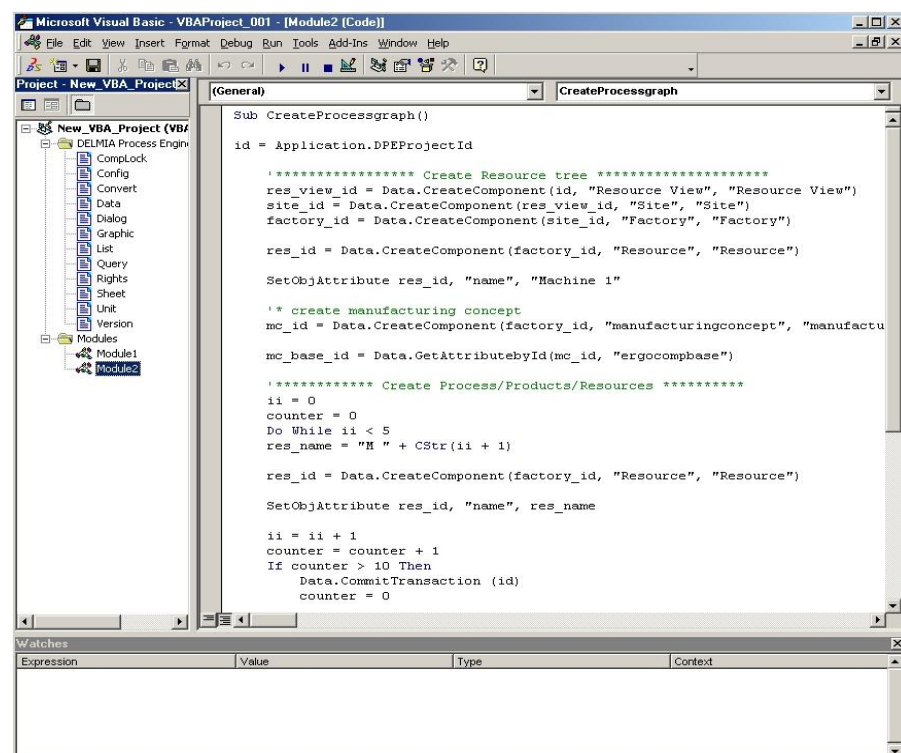

Figure 26: Example of a VBA Environment
- 3) Open the context menu on the selected VBA Project. Click **Open VBA IDE** in the context menu. The VBA Environment gets opened. *Please refer to the Figure 26.*
As an example, the Figure 26 shows a VBA Environment opened in the VBA Project in the Process Engineer. In the tree structure of the project (left side) there are methods for creating scripts (XscriptItem-objects), with which you are already familiar from the Process Engineer, are displayed.